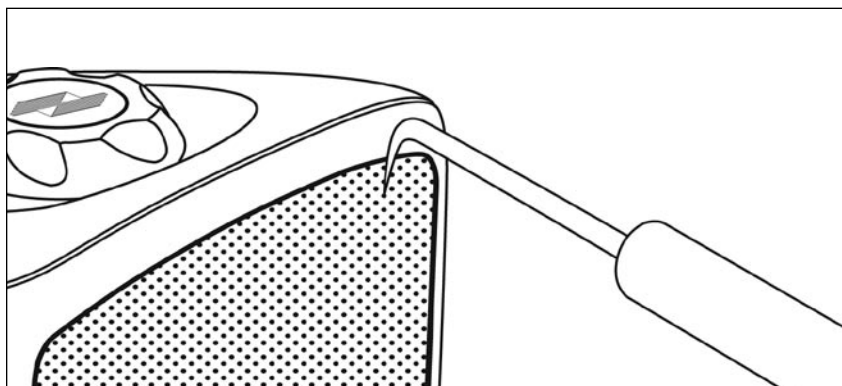

Figure 9. Removing the grille using an awl
1. *Separate the parts of the loudspeaker. You should remove the brackets and the bracket knobs. Remove the grille by hooking it with the tip of an awl and pulling it away from the cabinet (see **Figure 9** on the next page).*